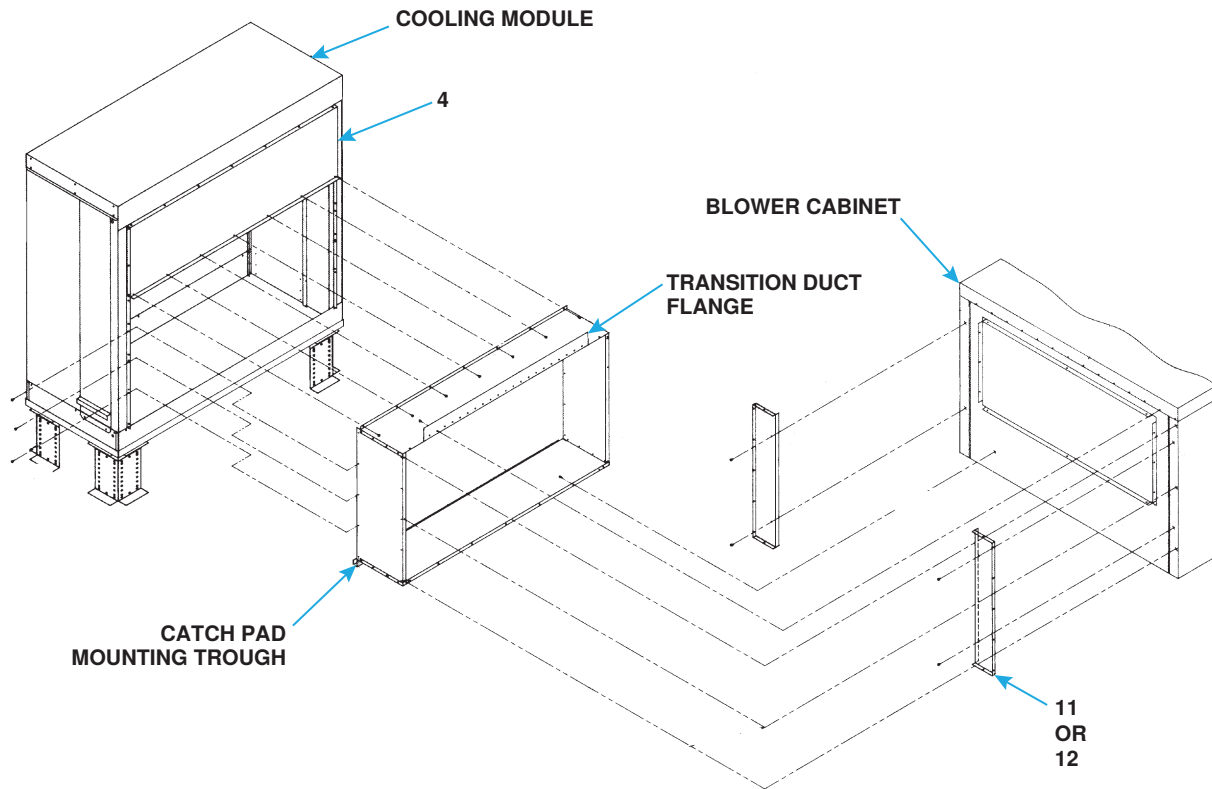

Figure 5. Evaporative Cooling Module, Transition Duct, and Blower Cabinet (Refer to Table 1)
Refer to Figure 5.
- c. Guide catch pad assembly through cooling module inlet and place bottom of lower pad into catch pad mounting trough (see Figure 5). Slide catch pad assembly into two slots located in catch pad clamps installed in step 2a.
- d. With pads in place, slide one of two remaining clamps over middle seam where assembled catch pads meet. Slide other clamp over top catch pad frame and secure both clamps to cooling module leg using screws (8).